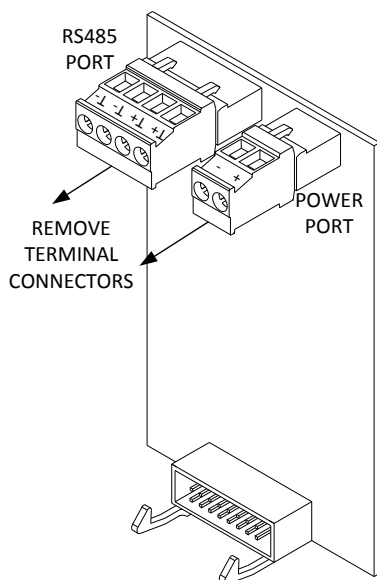

Figure 5: Removing terminal connectors
3. With the small slotted screwdriver remove the terminal connectors from the power and communication (RS485) ports (Figure 5). Do not lose the connectors, they will be needed for final wiring of the unit when placed back in the tank.